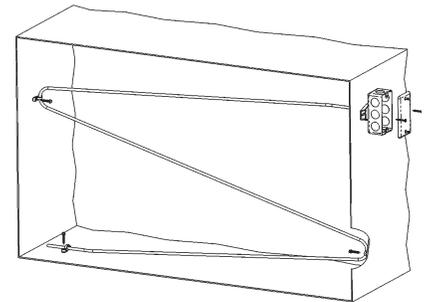

Fig. 8: Flexible Sensor Horizontal Mount (Best for Vertical Stratification)
1. Place the sensor in the middle or top of the duct as shown in Figs 8 & 9 and drill the probe and mounting holes as depicted for the enclosure being used.